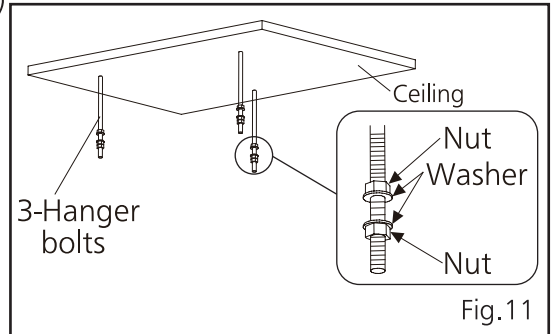

Fig.11
2. Install hanger bolts on ceiling, and put washers and nuts on bolts. (Hanger bolt, nut and washer should be M8-M10 and are not provided.) (Fig.11)